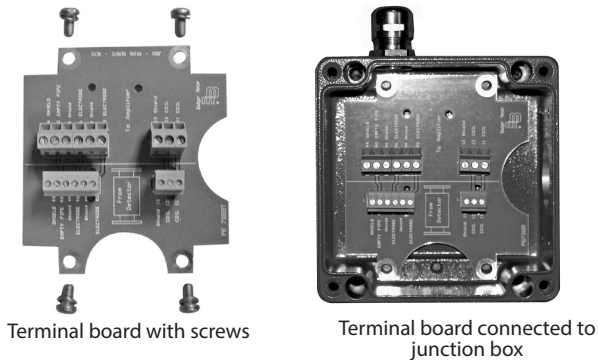

Figure 3: Terminal board
1. Connect the terminal board to the junction box with four screws. Figure 3 shows proper orientation of the PCB board.